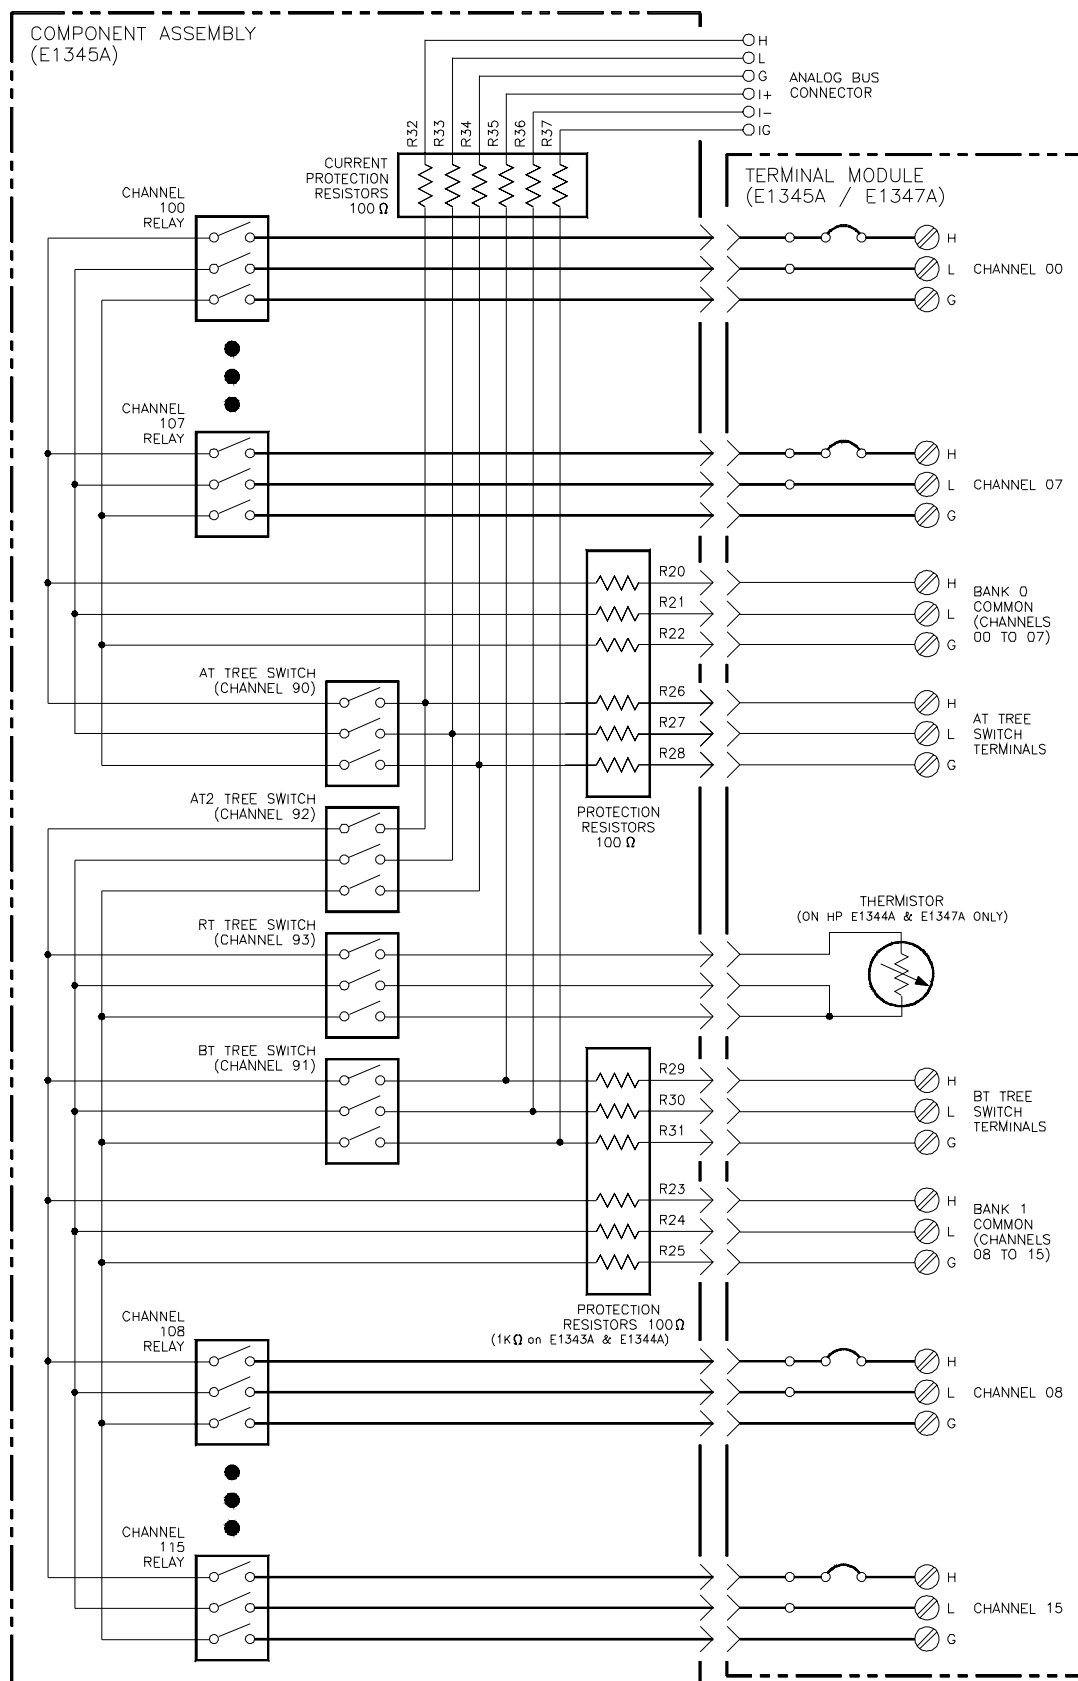

Figure 4-1. E1343A, E1344A, E1345A, E1347A Multiplexer Block Diagram
The E1343A 16-Channel High Voltage Relay Multiplexer and the E1344A 16-Channel High Voltage Relay Multiplexer (with thermocouple compensation) modules consist of an E1343A component assembly (part number E1343-66201) and a terminal module. Each multiplexer provides switching (multiplexing) of up to 16 channels (channels 00 to 15). Each channel has HIGH (H), LOW (L), and GUARD (G) connections. See Figure 4-1 for a block diagram of these modules.
The E1345A 16-Channel Relay Multiplexer and the E1347A 16-Channel Thermocouple Relay Multiplexer modules consist of an E1345A component assembly (E1345-66201) and a terminal module. Each multiplexer provides switching (multiplexing) of up to 16 channels (channels 00 to 15). Each channel has HIGH (H), LOW (L), and GUARD (G) connections. See Figure 4-1 for a block diagram of these modules.